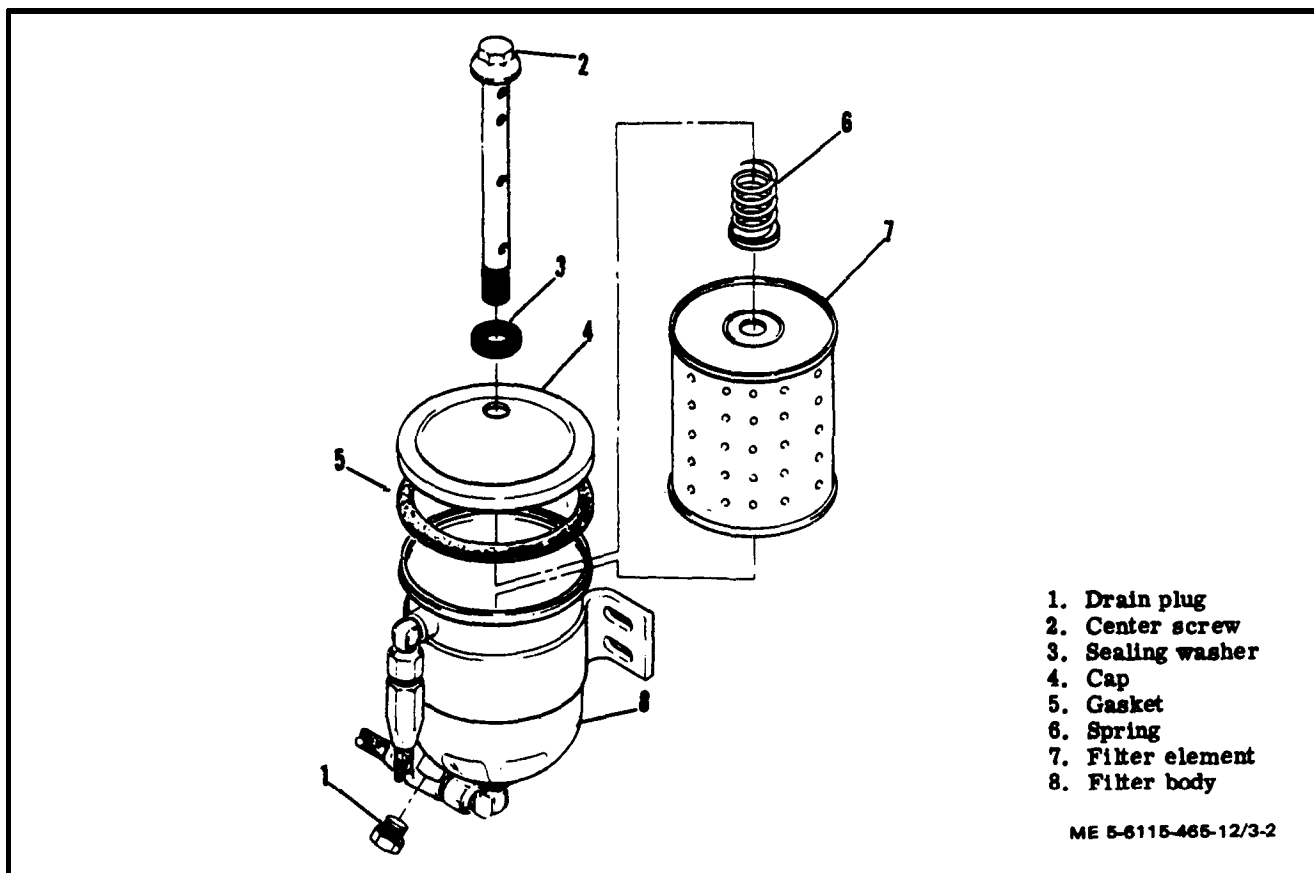

Figure 3-2. Servicing the Engine Oil Filter
(1) Thoroughly clean the oil filter casings and the surrounding area.
(2) Remove drain plug (1, figure 3-2) and allow the oil to drain into a suitable container.
(3) Remove center screw (2) and sealing washer (3).
(4) Remove cap (4), gasket (5), spring (6), and filter element (7) from filter body (8). Discard gasket and filter element.
(5) Install replacement filter element (7) into filter body (8).
(6) Install spring (6), replacement gasket (5) and cap (4) and secure with washer (3) and center screw (2). Tighten center screw securely to prevent leaks.
(7) Install drain plug (1) and tighten securely.